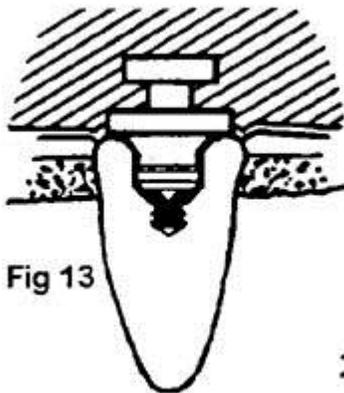

Fig 13
2. Place an Impression Male in the metal female cemented in the oral cavity. Make sure you feel a positive snap, indicating the Impression Male is fully engaged. The male should seat flush on the flange of the metal female component (Fig 13).